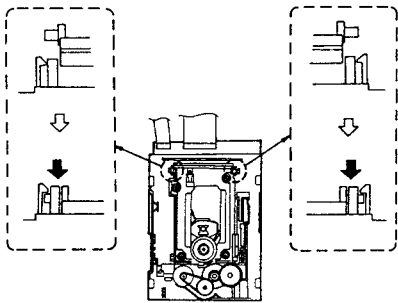
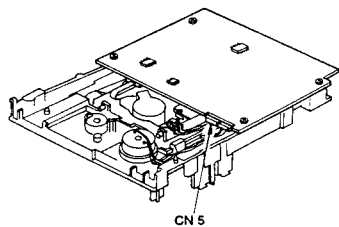

Figure 30
Figure 31
- (11) Lock the rear end of the Traverse Deck as shown in Figure 30.
- (12) Turn the CD-ROM Drive Unit.
- (13) Connect the connector (CN 5) as shown in Figure 31.